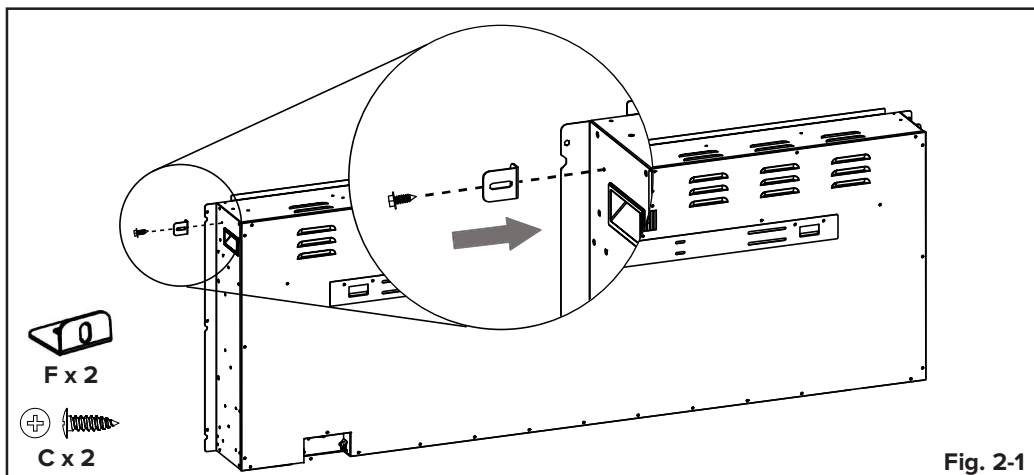

Fig. 2-1
**STEP A.** Install 2 metal brackets (1 per side) (supplied) onto the top sides of the appliance (Fig. 2-1).